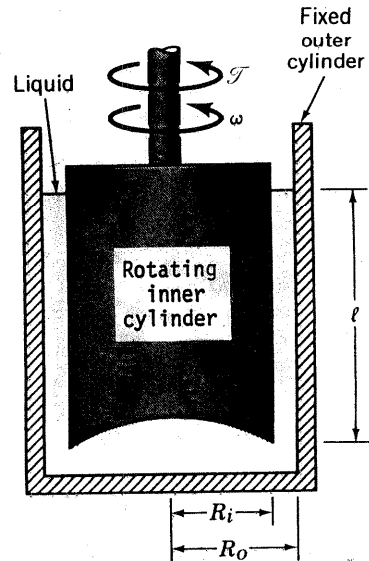

FIGURE P1.61
**1.61** The viscosity of liquids can be measured through the use of a *rotating cylinder viscometer* of the type illustrated in Fig. P1.61. In this device the outer cylinder is fixed and the inner cylinder is rotated with an angular velocity,  $\omega$ . The torque  $\mathcal{T}$  required to develop  $\omega$  is measured and the viscosity is calculated from these two measurements. Develop an equation relating  $\mu$ ,  $\omega$ ,  $\mathcal{T}$ ,  $l$ ,  $R_o$  and  $R_i$ . Neglect end effects and assume the velocity distribution in the gap is linear.